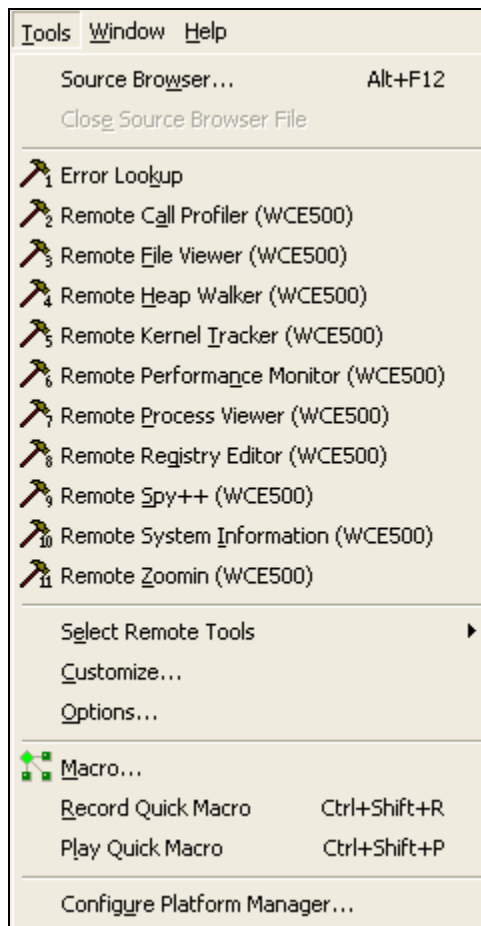

Figure 3.14: Remote Tools Options
13. You can also use 'Remote Tools' for further analysis of your application. **Note:** 'Remote Tools' must be used during the execution of the application. For more information on using 'Remote Tools', please reference Microsoft eVC++ 'Help.' See Figure 3.14 below for an image of the Remote Tools options.